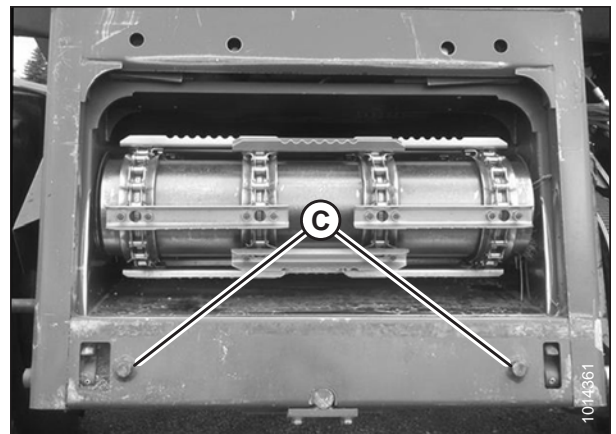

Figure 5.11: AGCO Group Alignment Pins
2. Start the engine and slowly approach the header until the feeder house is directly under float module top cross member (A) and alignment pins (C) (refer to Figure 5.11, page 67) on the feeder house are aligned with holes (B) in the float module frame.